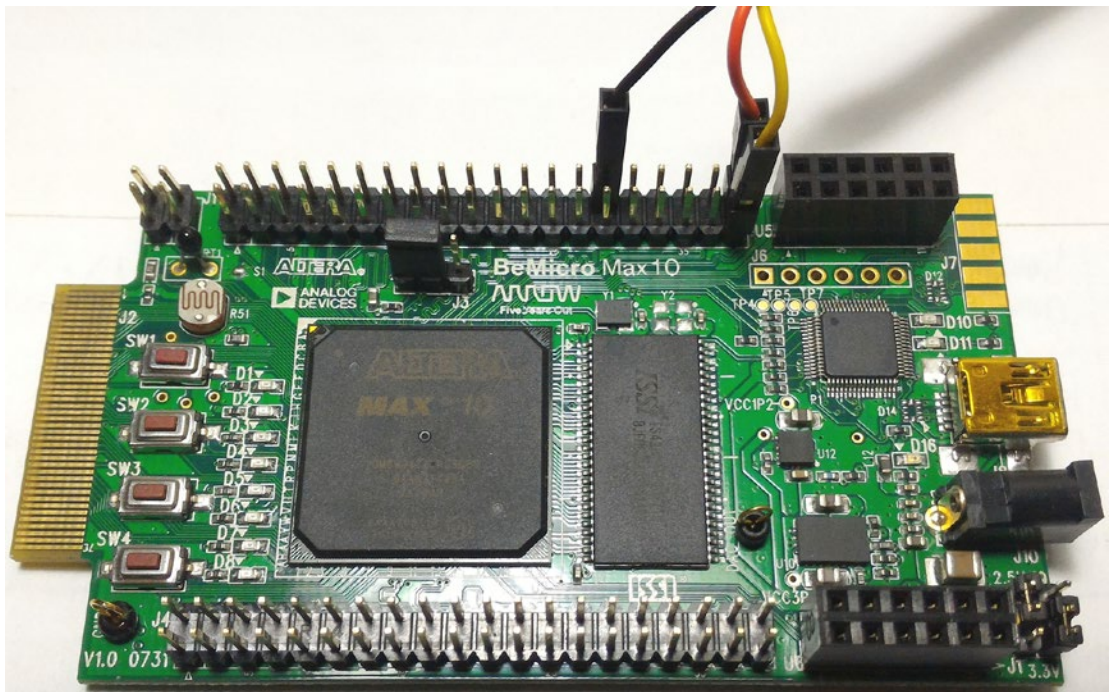

Figure 13-34. Connection to the USB UART
1. Connect the UART to the USB cable as in Figure 13-34. Connect the black (GND) to the pin 30, orange to pin 40 and yellow to pin 39.